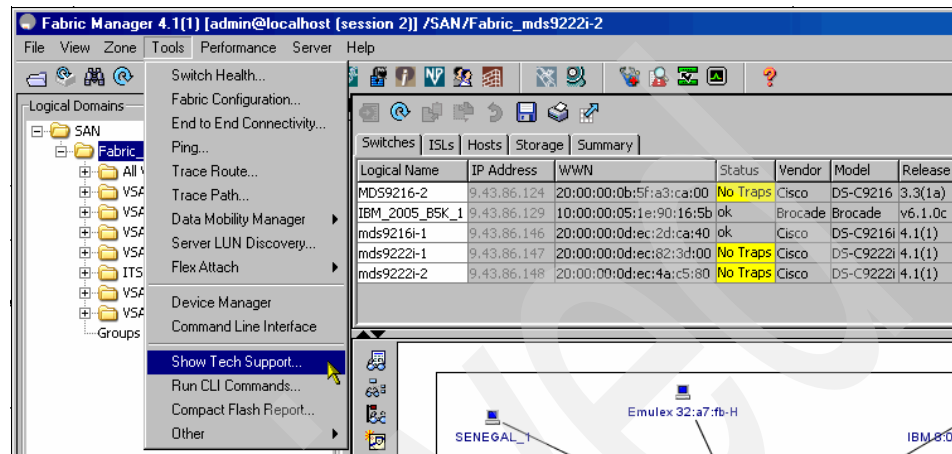

Figure 8-23 Launching Show Tech Support from Fabric Manager menu
1. Choose **Tools** → **Show Tech Support**, as shown in Figure 8-23. You will see the Show Tech Support dialog box.